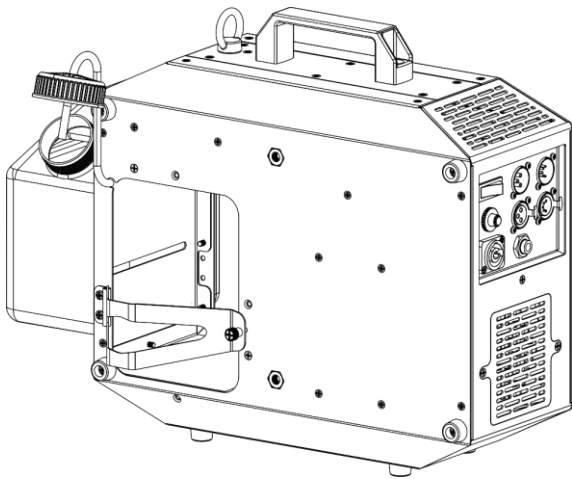

Fig. 18
- 13) Slide the hose into the hole, as shown in Fig. 18.